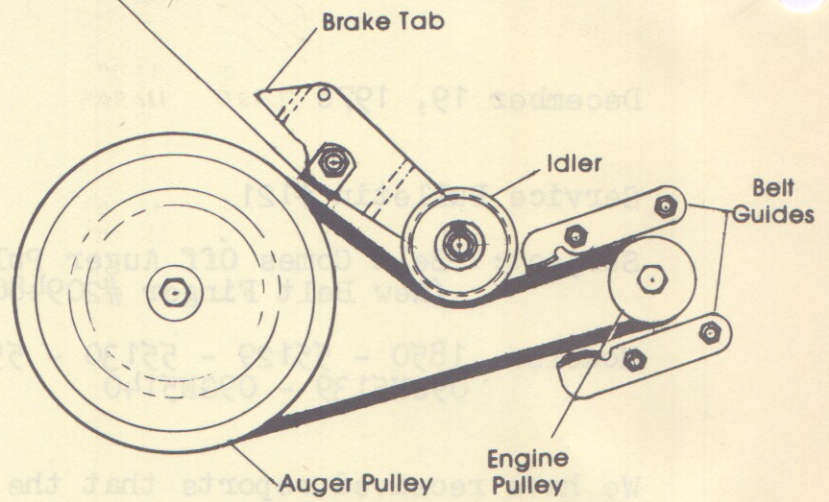

FIG. 2
- c) Tighten cone nut while holding leg of belt finger parallel to back of belt, when belt is engaged. The belt finger should clear the back of the belt when belt is engaged (refer fig. 2).